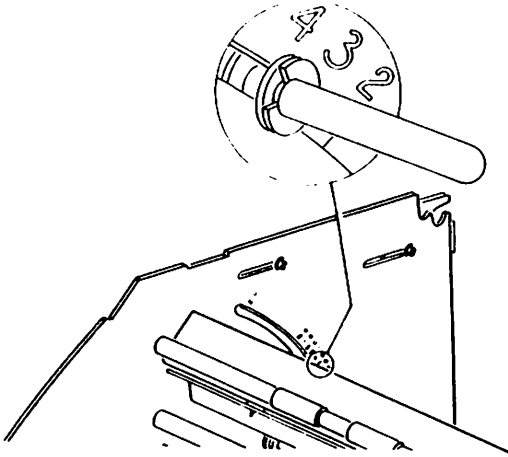

Figure 4 Forms thickness compensation
6. Retract the print head by moving the paper thickness adjustment lever on the inner left side frame to the head retract position (Figure 4).
The forms thickness compensation (Figure 4) adjusts the clearance between the print head and the platen, as required by the paper thickness. The distance between the print head and the paper has to be adjusted manually to the desired position giving the best print quality (one of eight), by activating a mechanical lever on the left side of the frame.